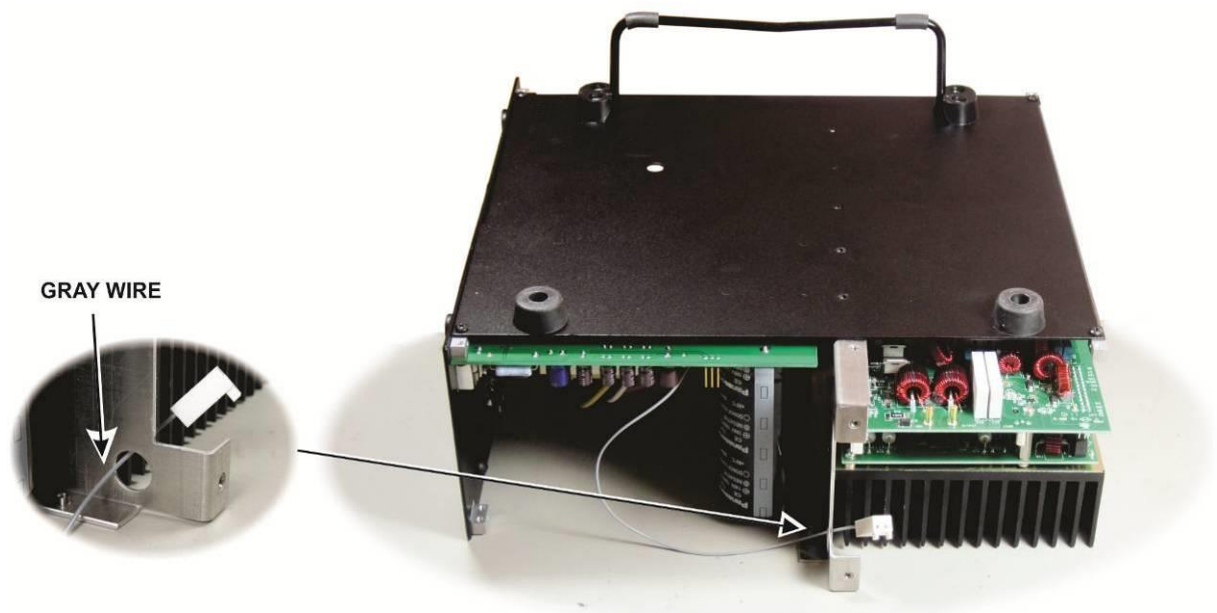

Figure 30. Preparing to Install the Z-Bracket Assembly in the Bottom Cover.
□ Place the Z-bracket with the rectifier board and PA/LPF module attached on your work table with the heat sink down, then gently position the bottom cover assembly you completed earlier over it as shown in Figure 30. Locate and pull the gray wire attached to the power supply module to the rear and route it through the hole in the Z-bracket as shown. The connector is typically a very tight fit the first time it is passed through the hole.